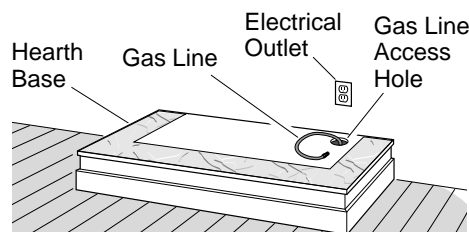

Figure 9 - Placing Hearth Base Accessory Against Wall
2. When installing blower, install a properly grounded, 120 volt three-prong electrical outlet at fireplace location if an outlet is not there. If possible, locate outlet so cabinet mantel will cover it when installed (see Figure 9).
4. Place hearth base accessory against wall at installation location. Cut an access hole in hearth top to run gas line to fireplace (see Figure 9, page 8). Make sure to locate access hole so cabinet mantel will cover it when installed. **Note:** You can secure base to floor using wood screws. Countersink screw heads and putty over.